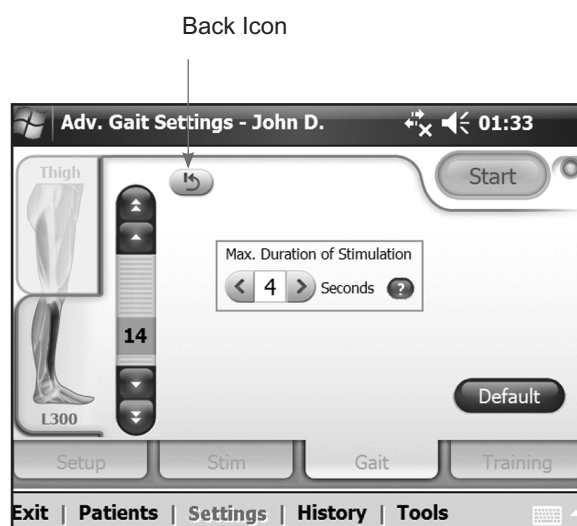

Figure 7-23: **L300 tab**, Advanced Gait Settings window.
2. Set the maximum duration of stimulation. See Figure 7-23.